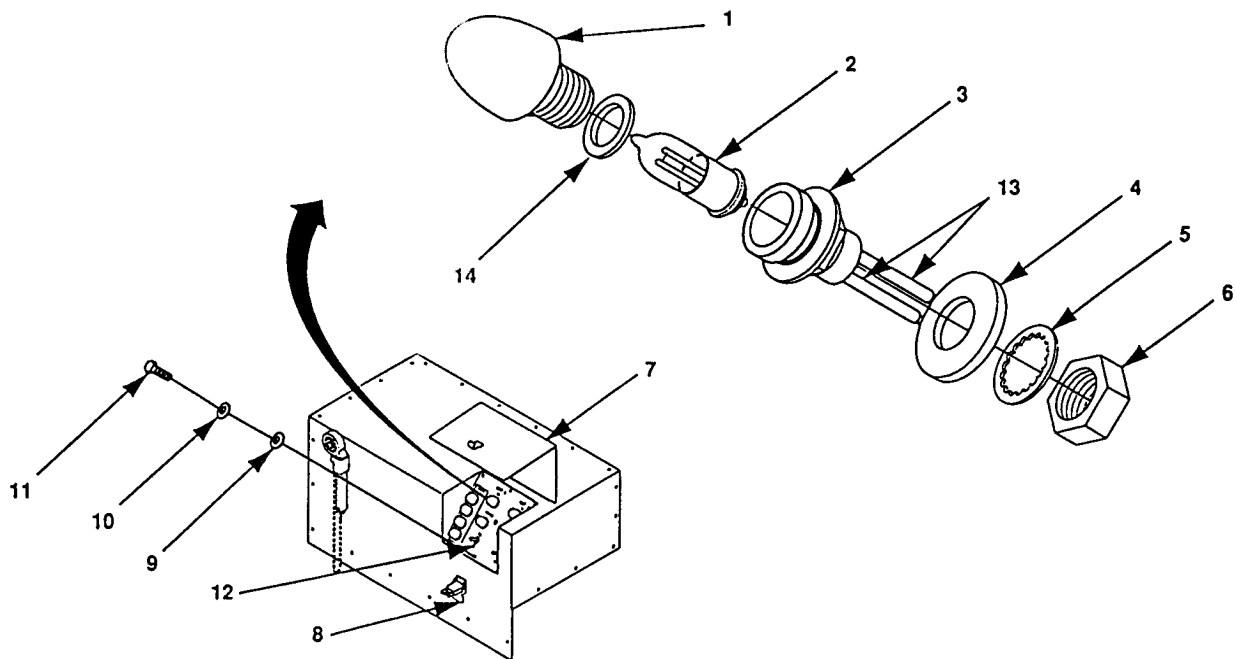

Figure 4-14. Indicator Light Replacement
1. Release clamping catch (8, figure 4-14) and open control panel access cover.
2. Remove 8 screws (11), flat washers (9), lock washers (10) and control panel assembly (12). Discard lock washers.